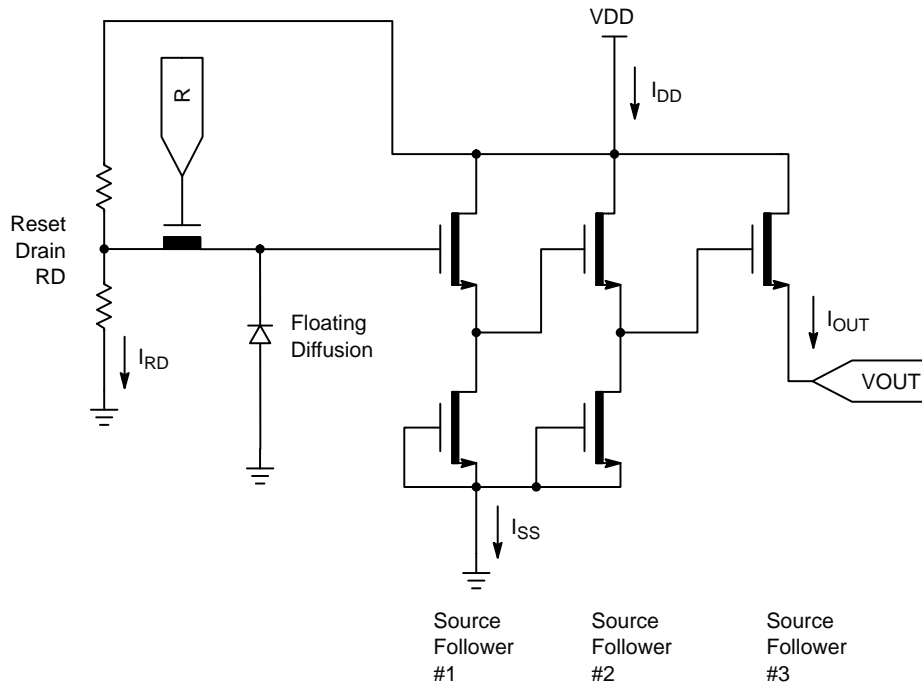

Figure 13. Output Amplifier
- Each output. See Figure 13. Note that the current bias affects the amplifier bandwidth.
- The maximum DC current is for one output unloaded and is shown as I_{RD} + I_{SS} in Figure 13. This is the maximum current that the first two stages of one output amplifier plus the reset drain bias circuit will draw. This value is with V_{OUT} disconnected.